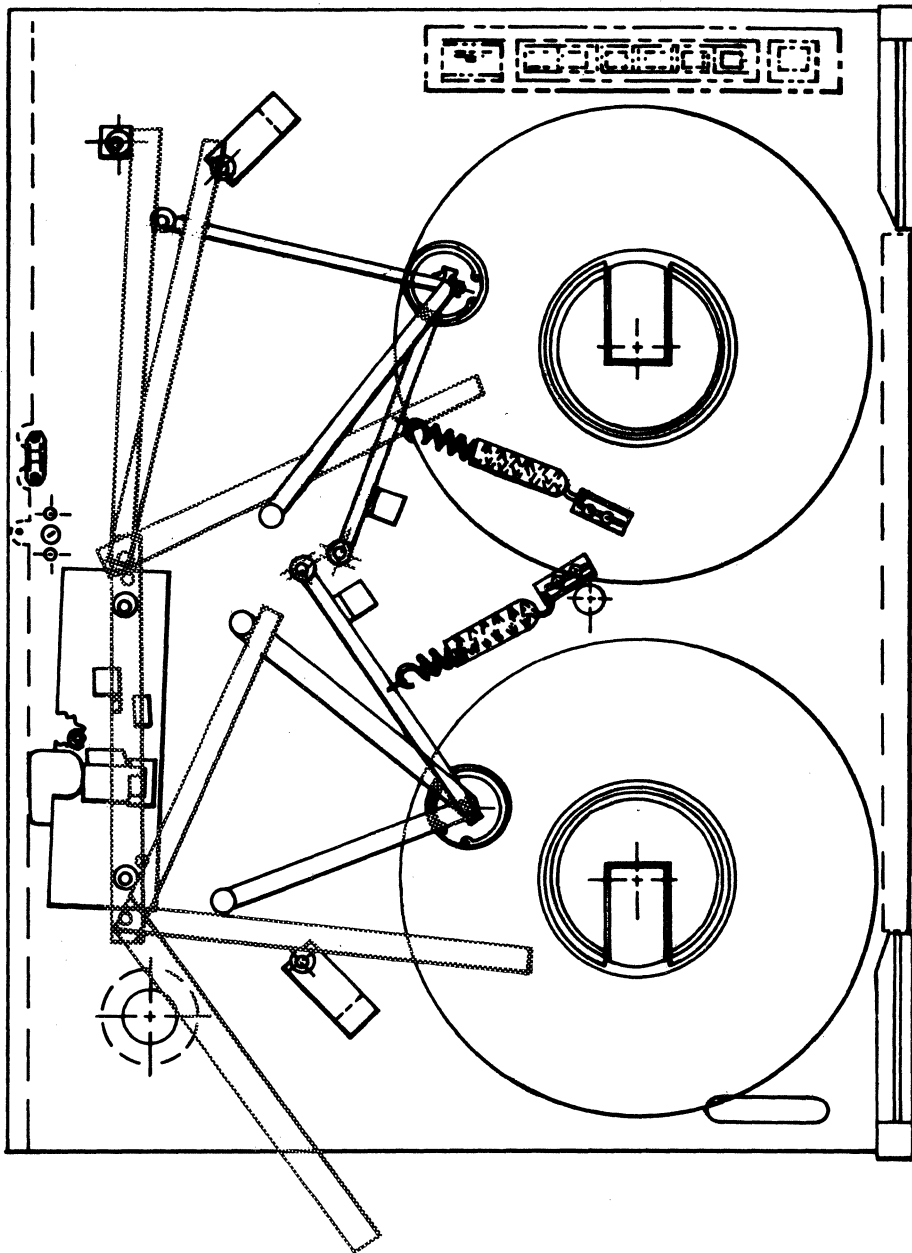

Figure 5-12. Tape Guide Alignment Tool Tension
- e. Mount the alignment tool (Part No. 00243) as shown in figure 5-12.
- d. Using the screws supplied with the Alignment Tool, mount the alignment tool on the fixed guides as shown in figure 5-12.
- d. Mount alignment tool (P/N 00243) as shown in figure 5-12.